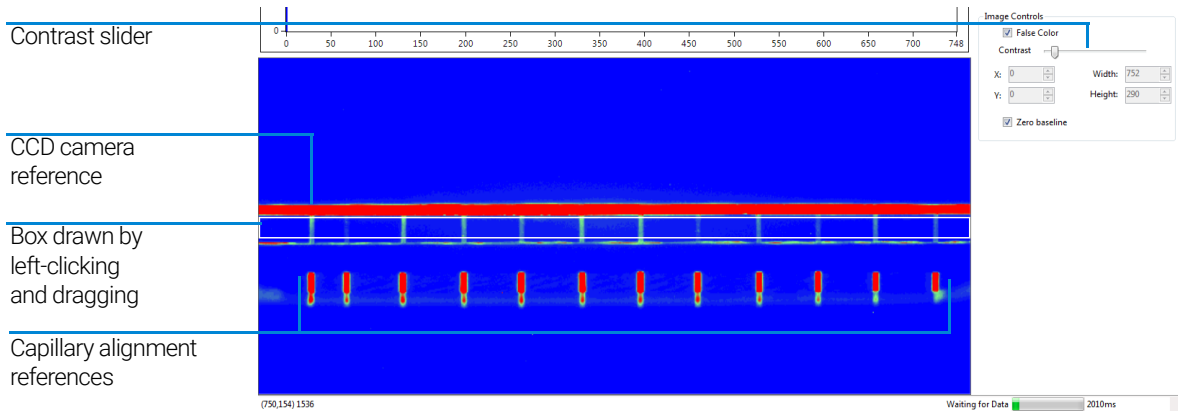

Figure 32 Capillary alignment display – window reset
- 3 Adjust the contrast slide bar to the left to brighten the display (**Figure 32**).
- 4 Draw a box around the capillary array display area. Left-click and drag the appropriate area. (**Figure 32**).